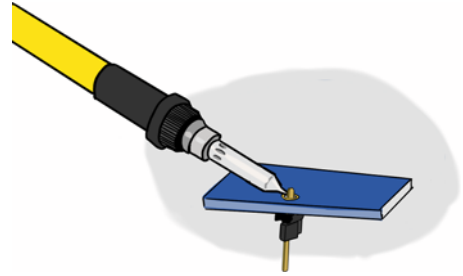

Figure 7.15 Place the soldering iron’s tip on the metal connection pad and the pin to heat them up.
- 4 Hold the soldering iron in your dominant hand and the solder in your other hand. Press the tip of your hot iron to the header pin and the connection pad for about one second (figure 7.15).